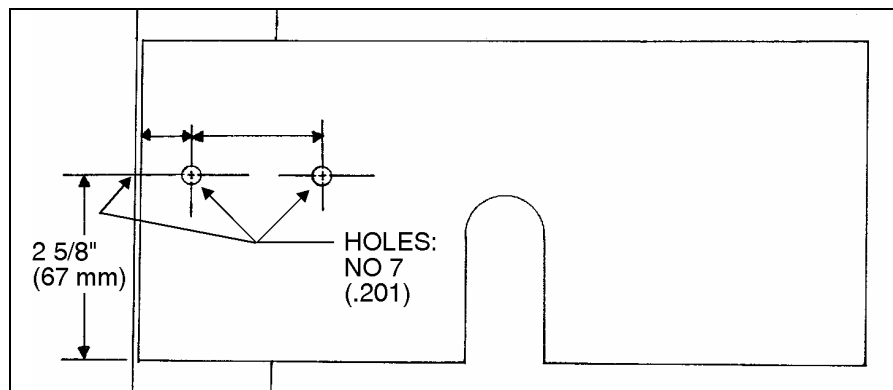

FIGURE 2
11. Mark vertical position of holes (Fig. 2) and, using bracket as template, mark horizontal position of the three holes, then drill them with a No 7 bit (.201). Install bracket using the three self tapping screws (Prévost #500923) and lock washers (Prévost #500473).